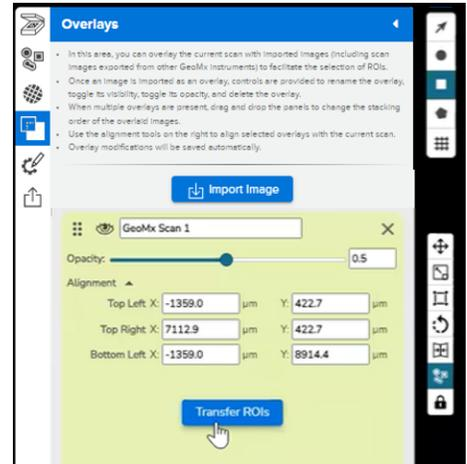

Figure 46: Transfer ROIs button
6. Click **Transfer ROIs** (Figure 46). A confirmation message appears; click Cancel or OK.